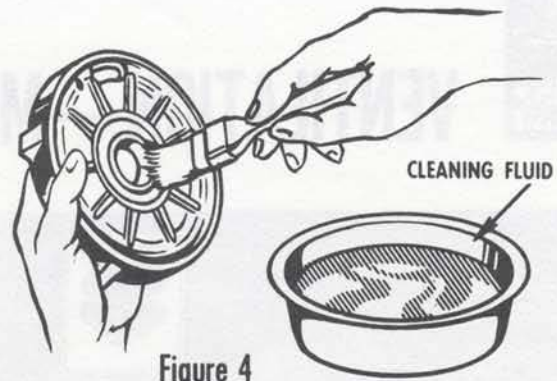

Figure 4
5. Wash metal parts with non-flammable fluid (Figure 4). Be sure to remove all dirt from air passages in the frame and in the rotor. Do not apply cleaning fluid to the coils of the motor unless absolutely necessary - then use a solvent-moistened cloth. Never immerse motor windings in the solvent.